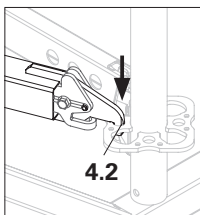

Fig. A1.11c
- Attach hook with slider (**4.2**) to the rosette. (Fig. A1.11c)
→ Securing mechanism is released. (Fig. A1.11c)